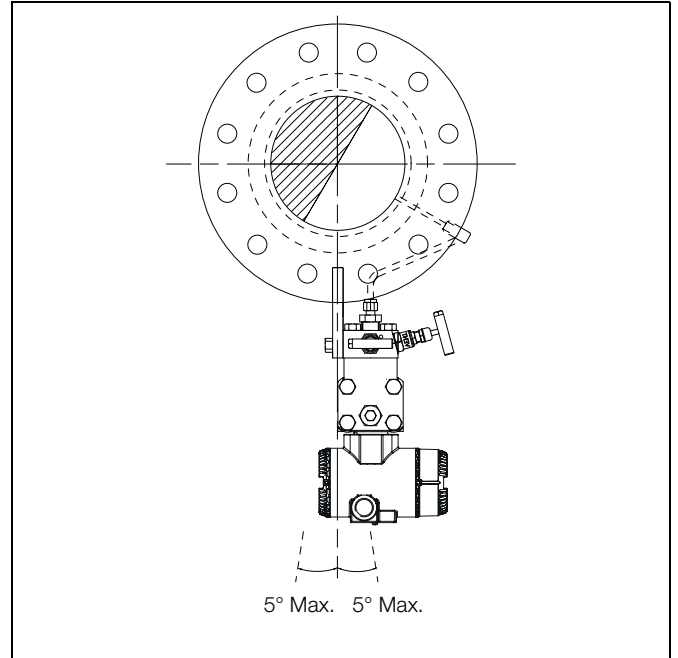

Fig. 2.3 Horizontal Pipe Mounting – Liquids
To ensure gases vent back into the pipe mount the meter **below** the pipe – see Fig. 2.3.
- for horizontal pipe mounting – liquid, refer to Fig. 2.3.
1. Referring to Fig. 2.3, install WedgeMaster as described in Section 2.3.